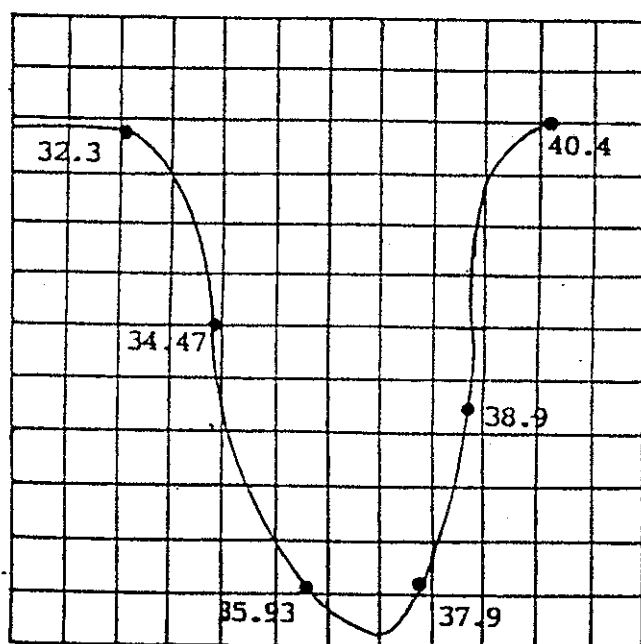

Fig. 3 .
- (1) Connect waveform detector to TP102 and Ground.
- (V) Adjust tuner convertor coil to obtain the waveform as Fig.3.